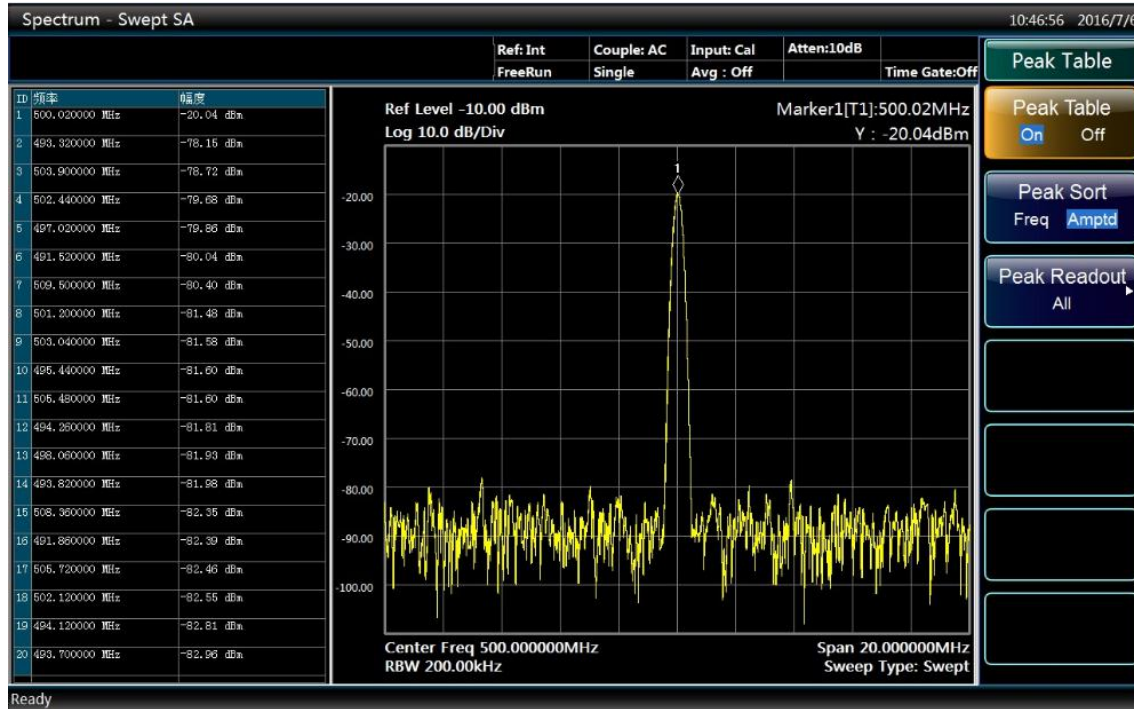

Fig. 3.21 The interface of opening peak table
- Press [Menu 1/2], [Peak Table ►] and [Peak Table On/Off] to open a new window of marker peak list as shown in Fig. 3.21.